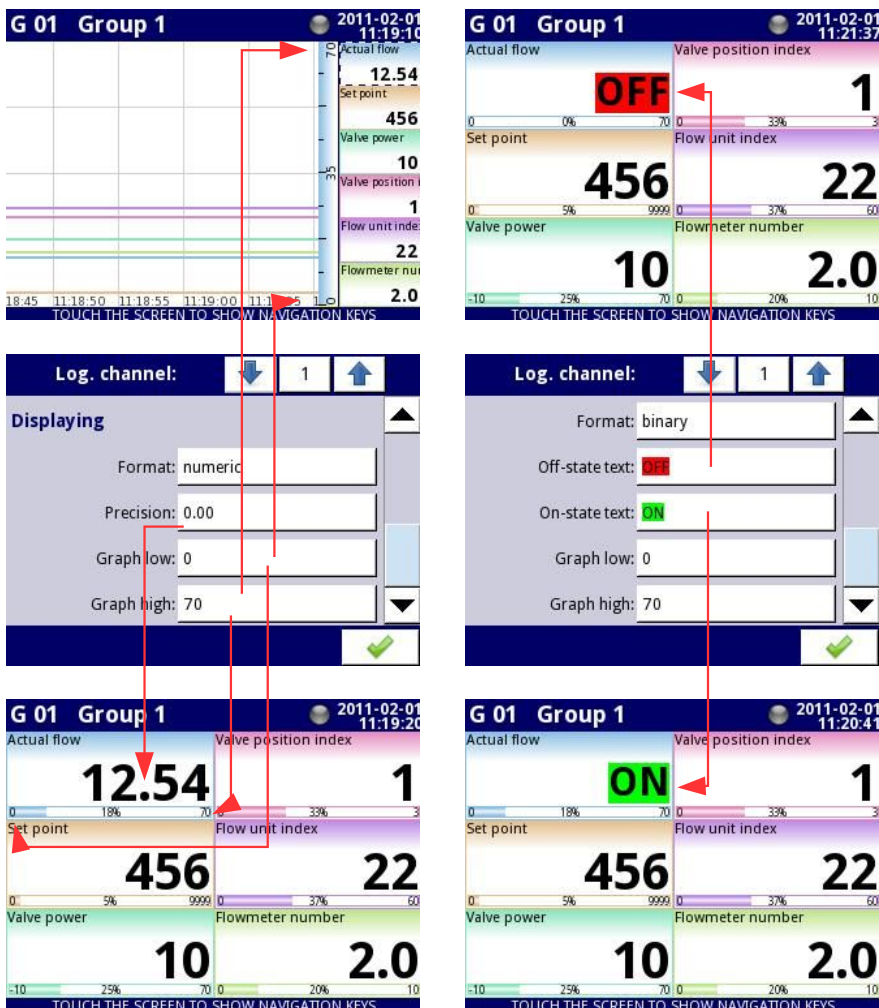

Fig. 7.43. Input channels menu – 2 different kinds of Displaying parameters
- **Precision** – this parameter occurs when the **Format** parameter is set as **numeric** or **time**, which specifies the precision to be displayed on the output value (see **Fig. 7.43**),
- **Graph low** – the minimum range value for graphs, bars, needle dials and percentage bars (see Fig. 7.43),
- **Graph high** – the maximum range value for graphs, bars, needle dials and percentage bars (see Fig. 7.43),